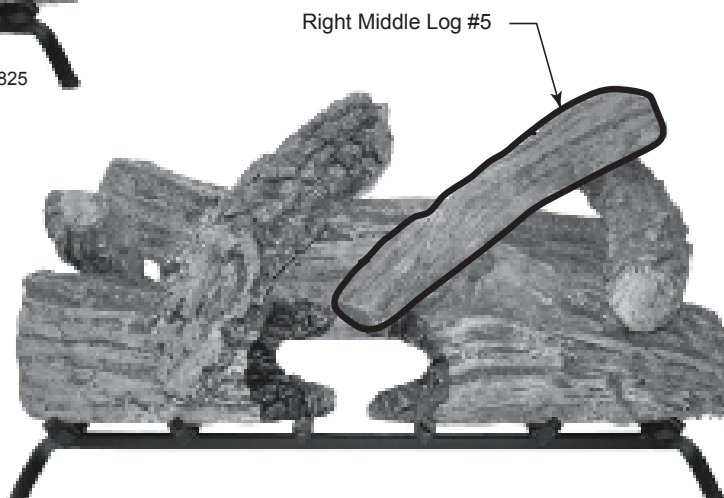

**Figure 94 -
8. Place front of right middle log #5 on top right of log #1a. Rest back end of log #5 on top right of log #4. *Figure 94*